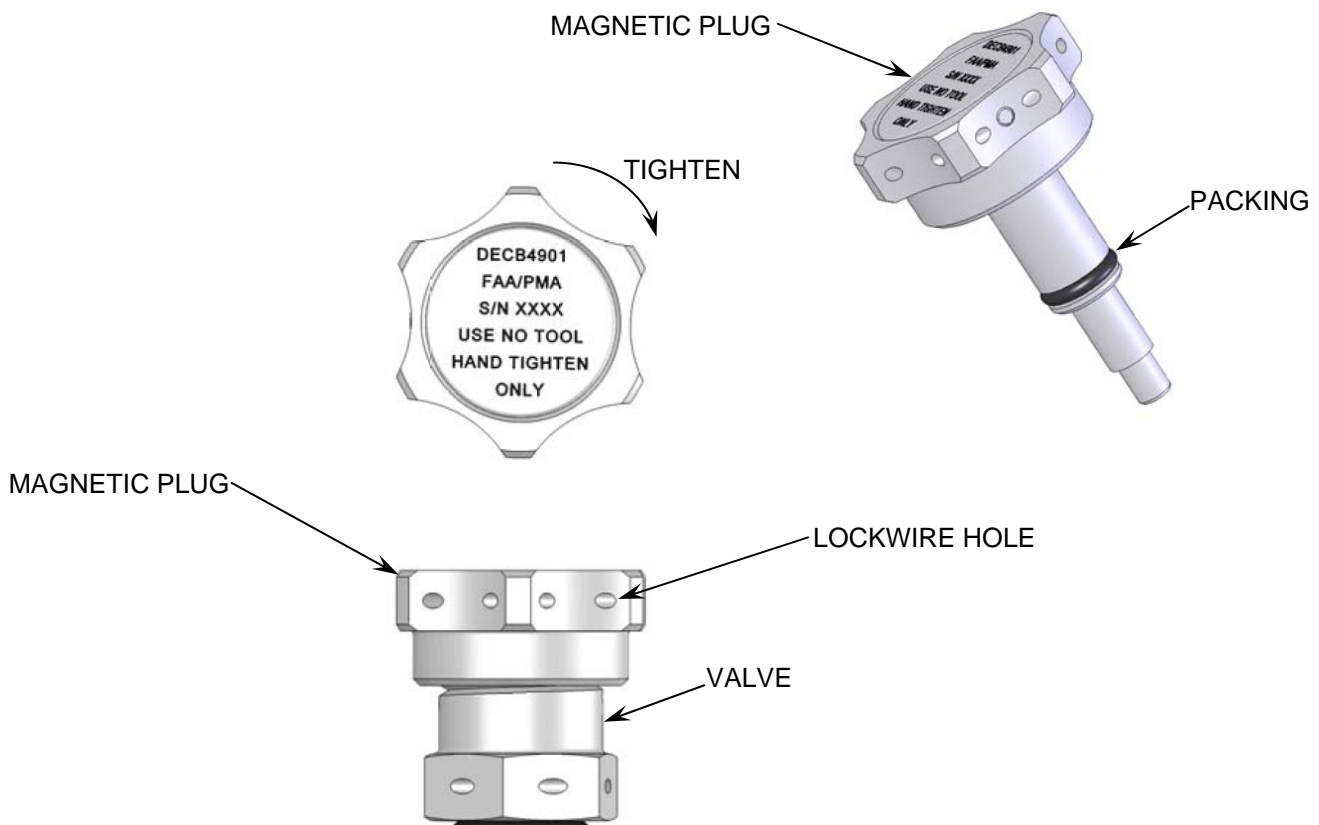

FIGURE 12
7. Installation of Magnetic Plug (Figure 12)